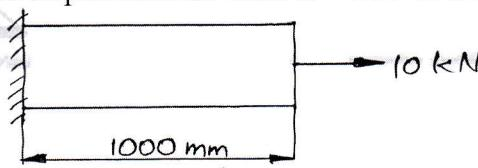

Fig.Q.3(b)
b. Fig.Q.3(b) shows a one dimensional bar subjected to an axial load. Taking it as a two bar element, determine the nodal displacements. Take  $E = 200 \text{ GPa}$  and  $A = 10^4 \text{ mm}^2$ . (12 Marks)